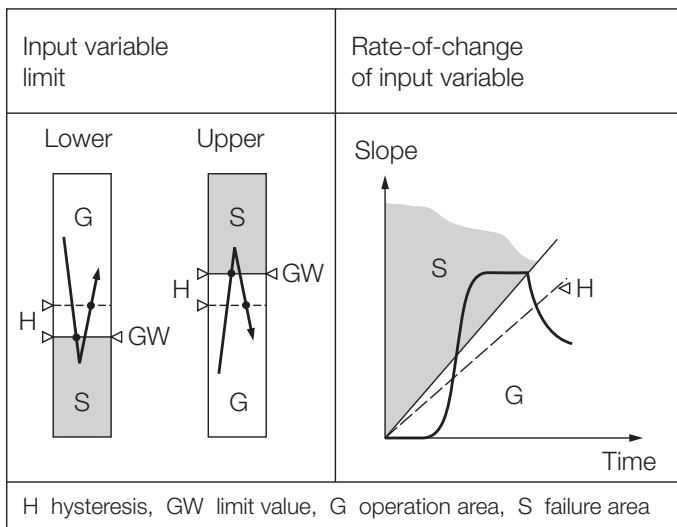

Fig. 6. Switching function according to limit monitored.
- Lower limit value of the measured variable (see Fig. 6, left)
- Upper limit value of the measured variable (see Fig. 6, left)
(see Fig. 6, right)